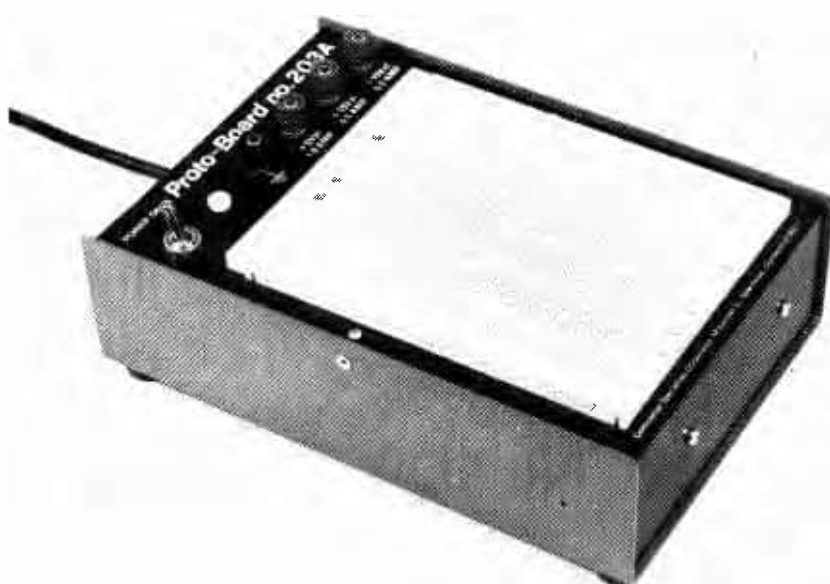

Fig 14
**Proto Board 203A.** Fig. 14, is composed of three Continental Specialties 0.1in breadboard strips and five power supply strips mounted on a steel case. A total of 2,270 connection points will accommodate up to 24 14-pin i.c.s together with discrete components. An internal power supply with short circuit protection gives three d.c. outputs of 5V at 1A and  $\pm 15$ V at 0.5A. Four screw terminals are provided for supply and earth connections, together with a mains switch and neon indicator. Dimensions for the unit are 247 × 165 × 90mm.